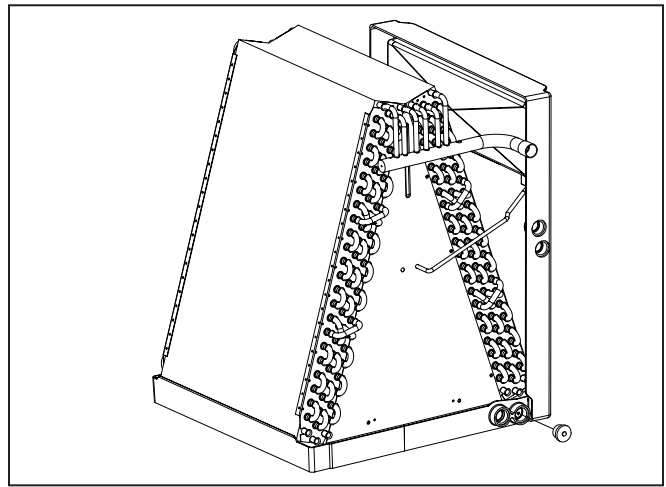

Figure 5. Horizontal right
- 12) For cabinets that are 20" tall, slip the bottom flange of the drain pan extension under the coil support rod in the drain pan. Make sure the side tabs fit inside the drain pan on each side between the drain pan inside wall and the coil support rod (See Figure 5.)